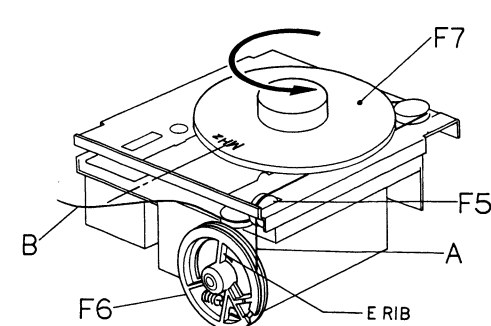
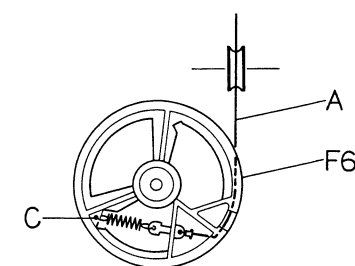

Fig. 5.7.1
Fig. 5.7.2
- (8) Refer to Fig. 5.7.1. Turning F7 (dial scale) to extreme CCW position, set "MHz" inscribed on the scale to the position indicated in the figure. (The position where "MHz" corresponds with the tuning point of the panel when the panel is fixed.) At this time, fix F6 (FE pulley) so that the E rib may become approximately vertical as shown in the figure. Referring to Fig. 5.7.2, connect the thread A to the pointer C of F6 via a spring.